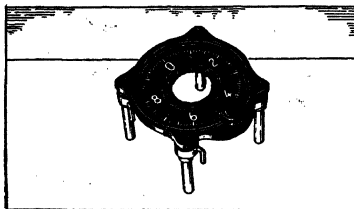

FIG. 15.—Kollsman test frame.
**Testing the Instrument.**—A special testing frame, such as Fig. 15, is needed for adjustments. This frame has collars for keeping the mechanism in place and a dial that may be turned to any reading. Put the mechanism in the test frame and put on the hand. Turn the dial until the hand is at the same reading as the standard altimeter, or mercury barometer, used for test. Put the mechanism, in the test frame, in a bell jar, or test box.